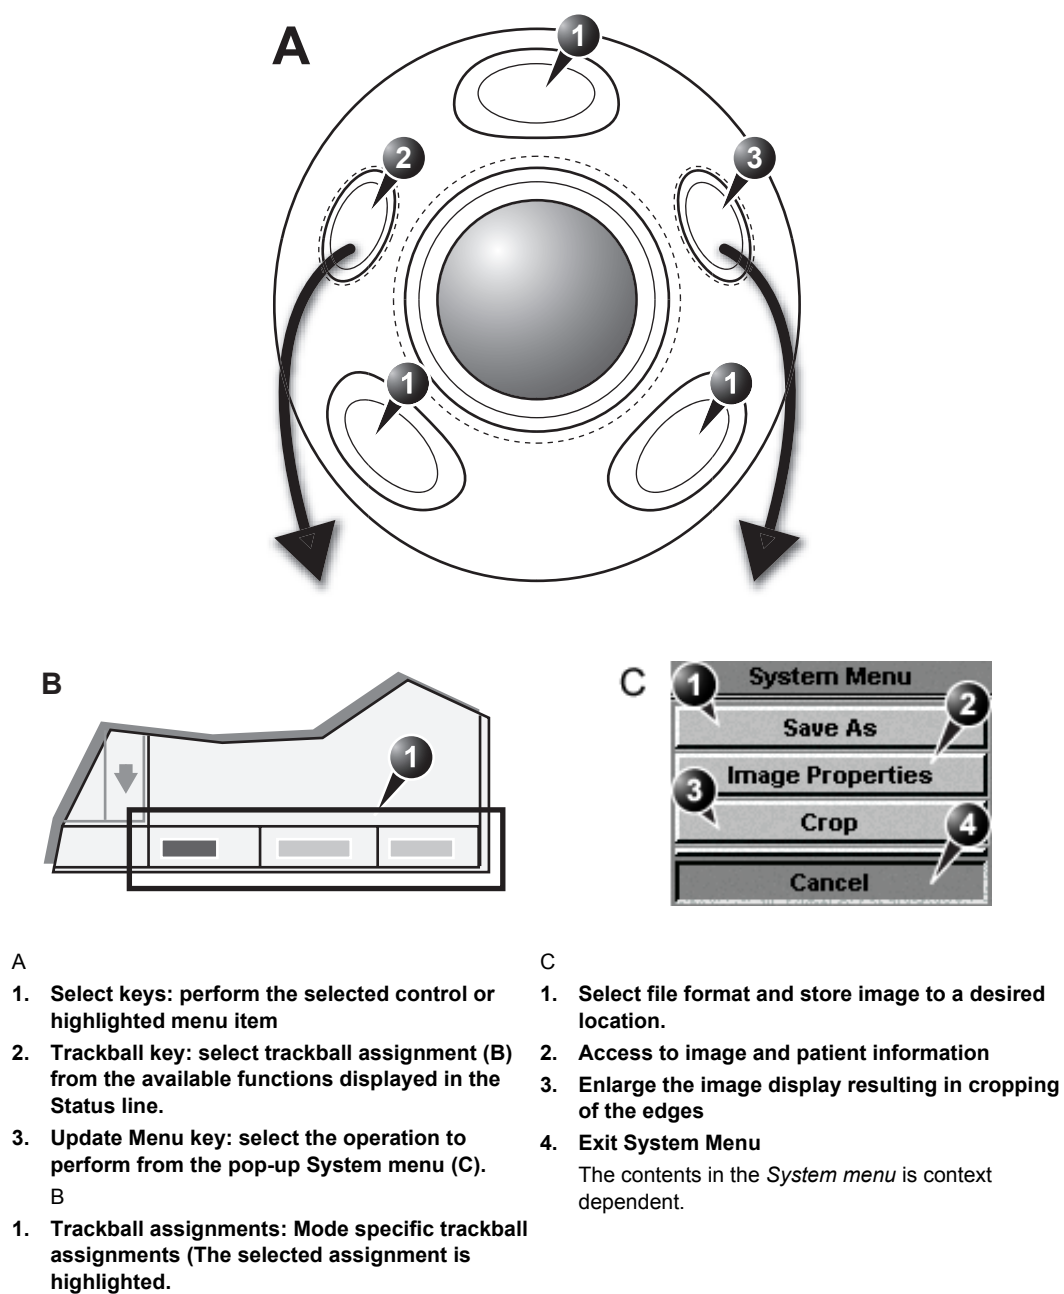

Figure 2-2: The Trackball area
- **The UPDATE MENU key**: enables quick access to image related functions from a pop-up menu (see Figure 2-2).
The trackball has a multi-mode function. The functions available from the trackball are mode dependent. The available trackball functions for the active mode are displayed on the right side of the *Status line* (Figure 2-2).
The system menu enables a quick access to image related functions (see Figure 2-2).